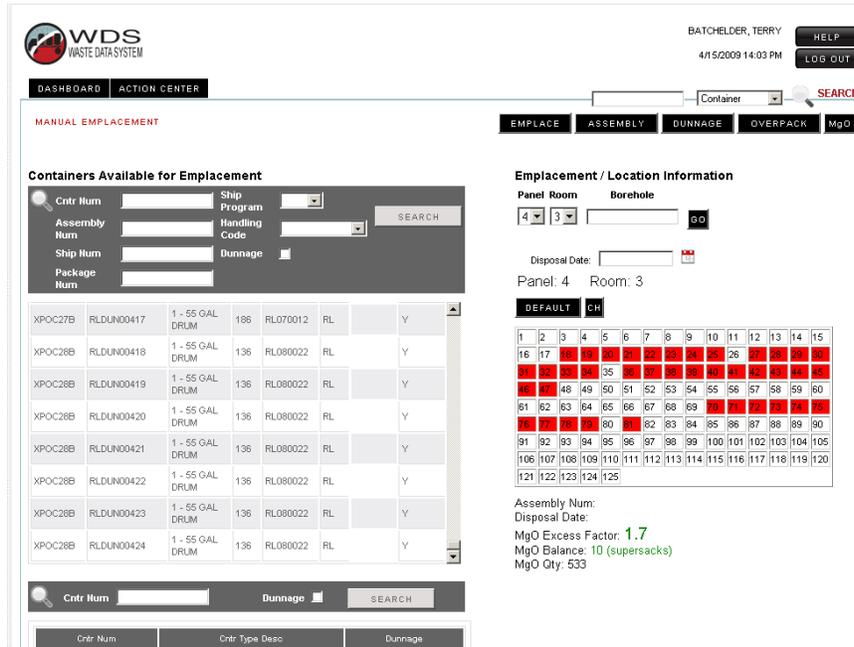

Figure 5-4 - RH screen for Waste Emplacement
- A. Select the container number within the Container Available for Emplacement screen (left side) as shown in Figure 5-4.